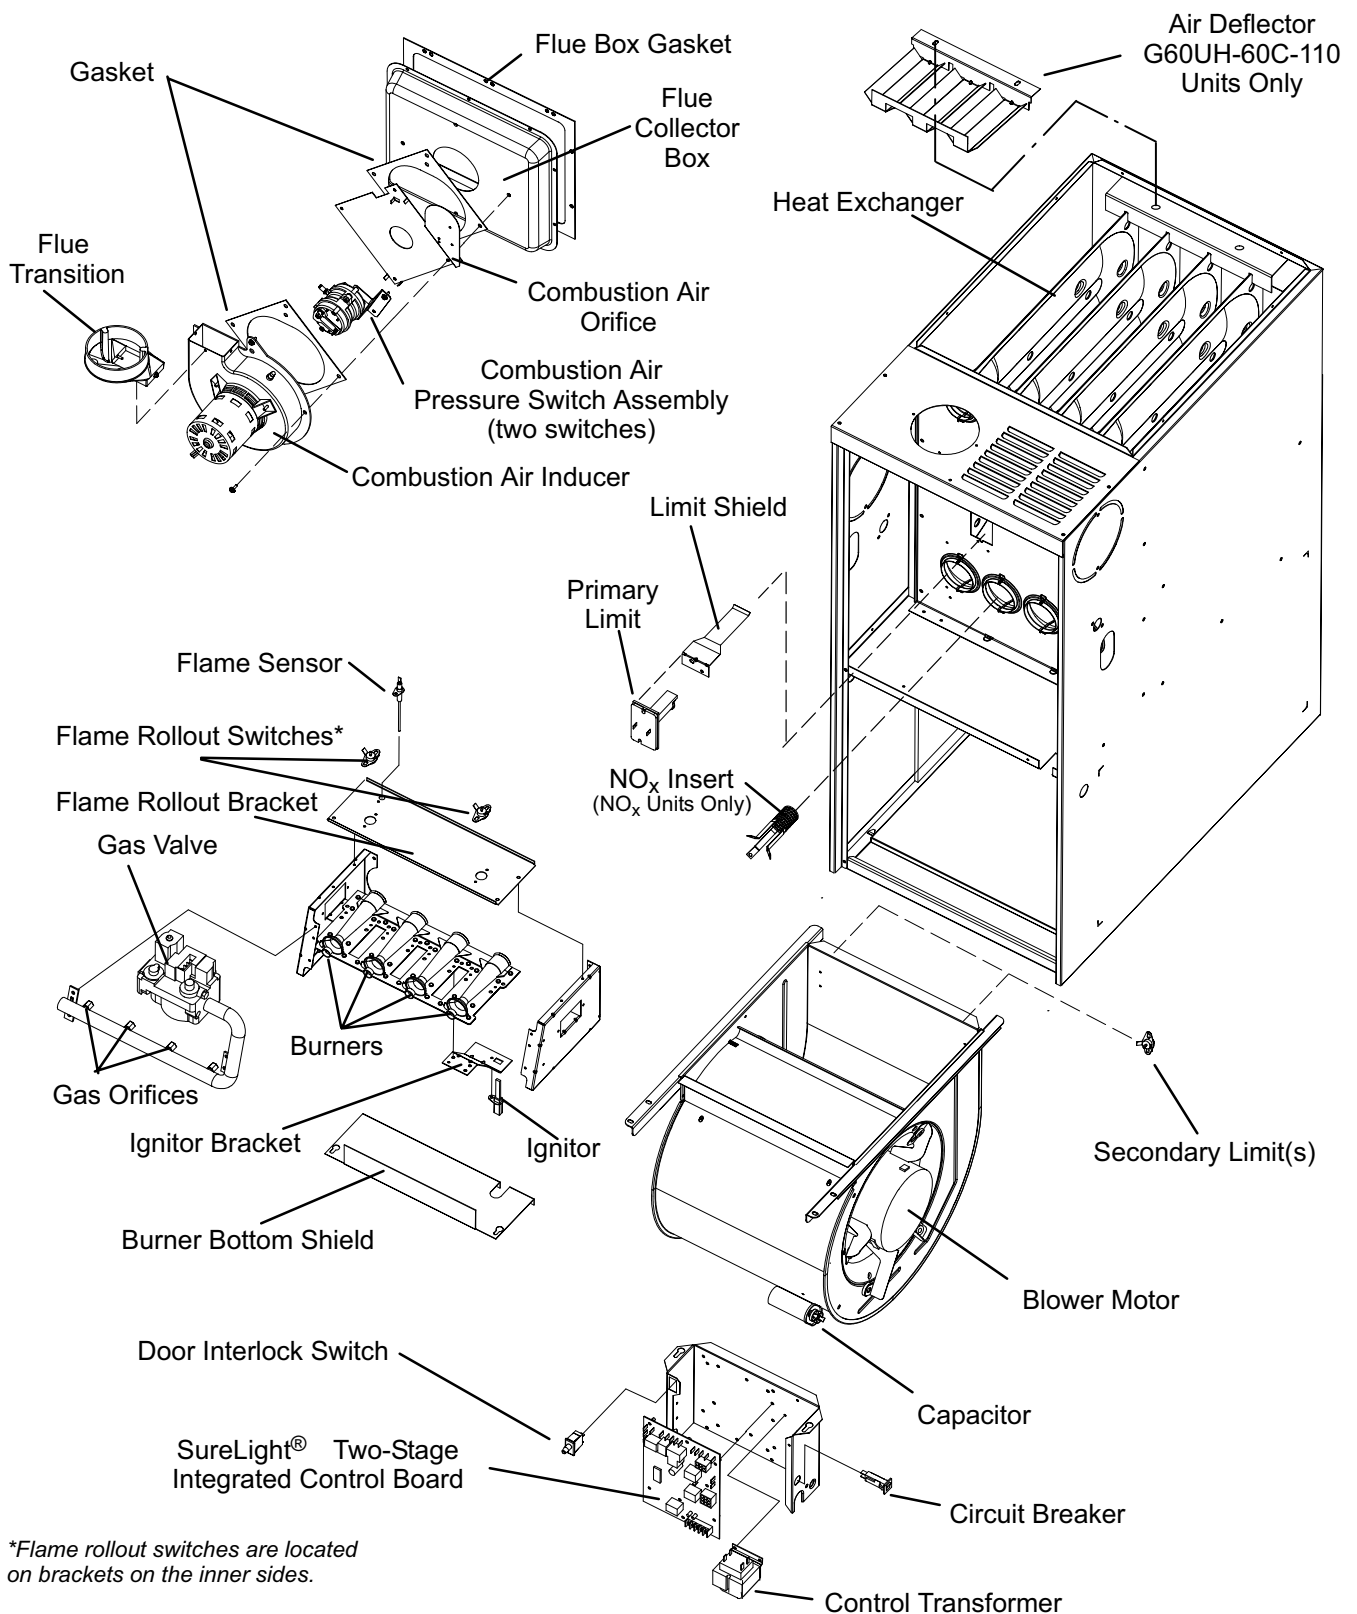
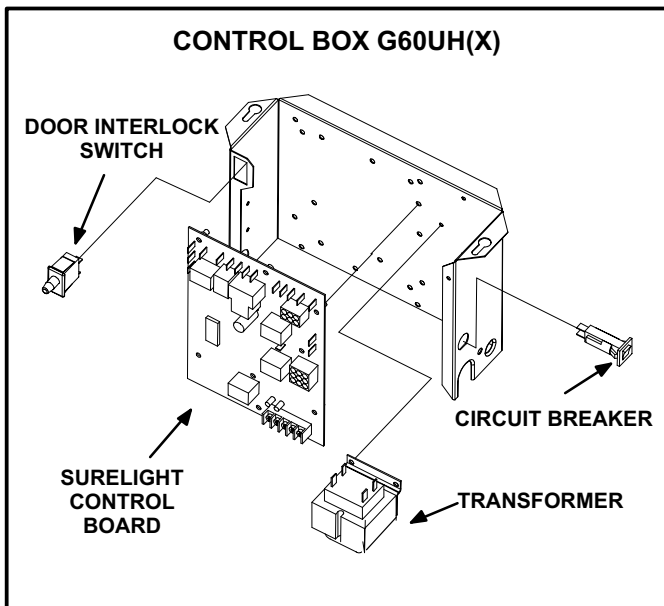

FIGURE 1
FIGURE 2
G60UH(X) unit components are shown in figure 1. The gas valve, combustion air inducer and burners can be accessed by removing the burner access panel. Electrical components are in the control box (figure 2) found in the blower section.